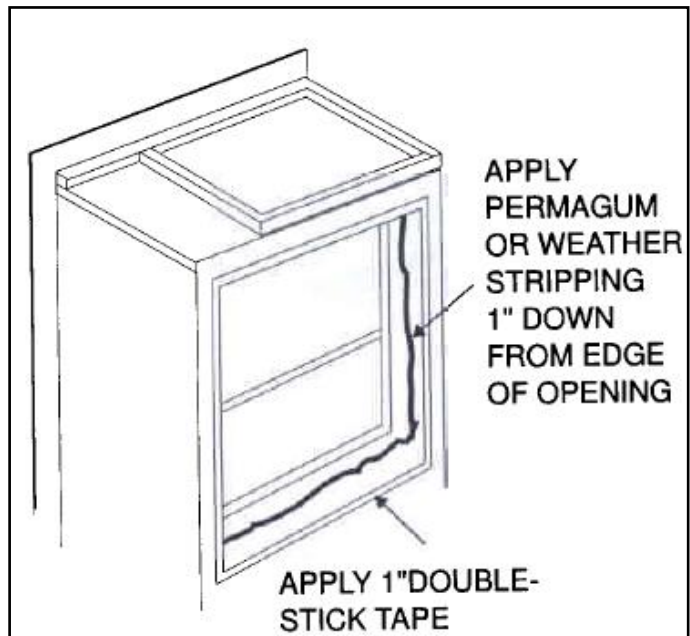

FIG. 9
33. Apply Pergamum and double-stick tape to cabinet as shown in Fig. 9.
34. If foam block fits loosely into cabinet (1/4" or more of movement) use 1/2" wide x 3/8" thick closed cell, one-sided adhesive weather stripping. Place in the location as Pergamum. Also apply double-stick tape as shown in Fig. 9.